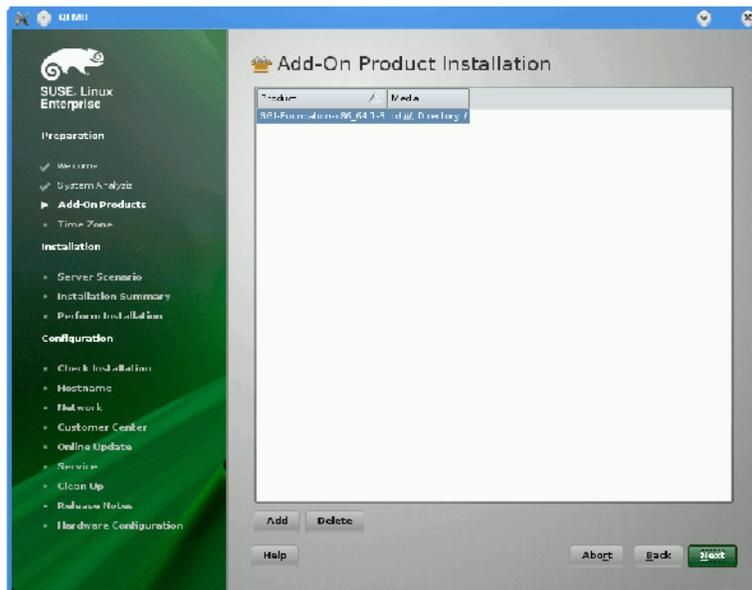

Figure 1-12 SLES11 SP1 Add-On Product Installation Screen Showing SGI Foundation
5. From the **Add-On Product Installation** screen, as shown in Figure 1-12 on page 20, click on **SGI-Foundation-x86_64 1-6 cd:///Directory** and click the **Add** button and then **Next** to proceed
From the Add-On Product Installation screen as shown in Figure 1-12 on page 20, click on SGI-ProPack-x86_64 6-4 cd:///Directory click the Add button and then Next to proceed.